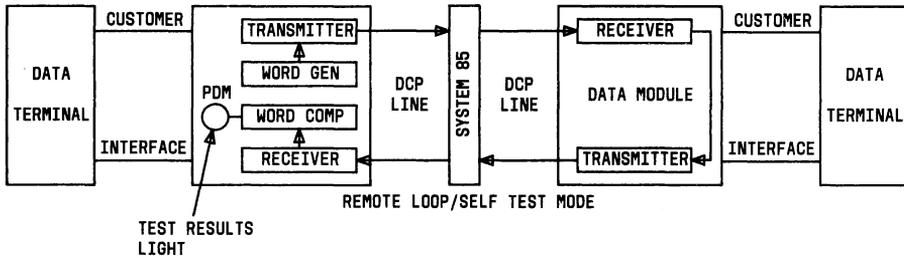

Fig. 12—Remote Loop/Self-Test Diagram
3.16 This test (Fig. 12) can be performed by moving the LOC LOOP/REM LOOP switch to the REM LOOP position after a call has been set up to put the remote module into remote loop. The SELF TEST switch is now moved to the SELF TEST position. The module will generate a known bit sequence and will transmit it to the remote module where the data will be looped back prior to the EIA interface of